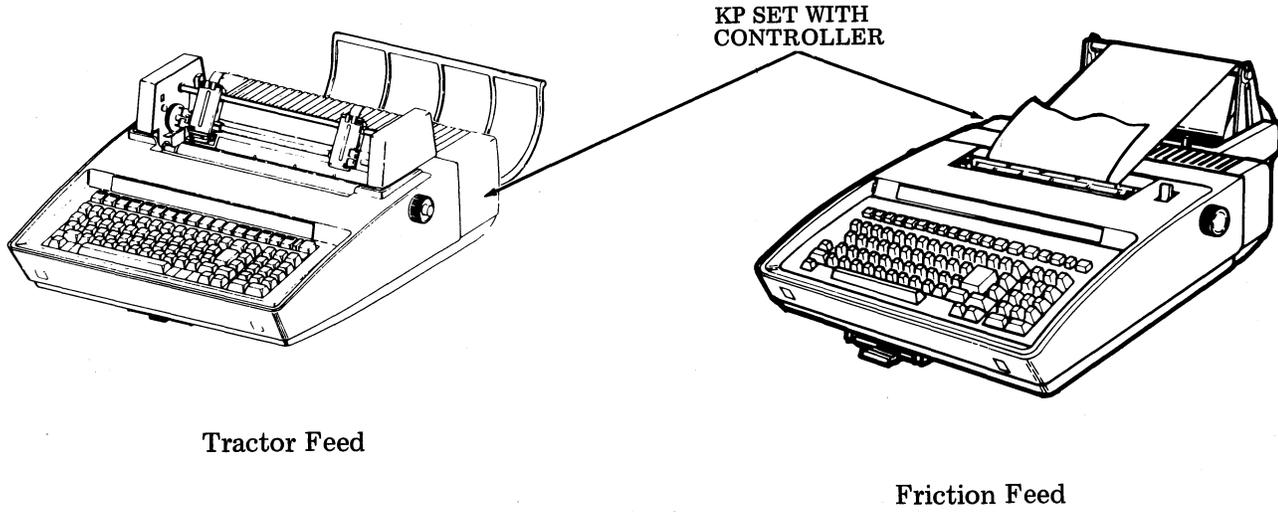

Fig. 1
2.01 The 43 BSC Station, consists of a KP set (Keyboard Printer) and a controller housed in the bustle. See Fig. 1.
2.02 The 43 BSC is available as a friction feed or tractor feed teleprinter containing a 16,000 character buffer. See Fig. 1.